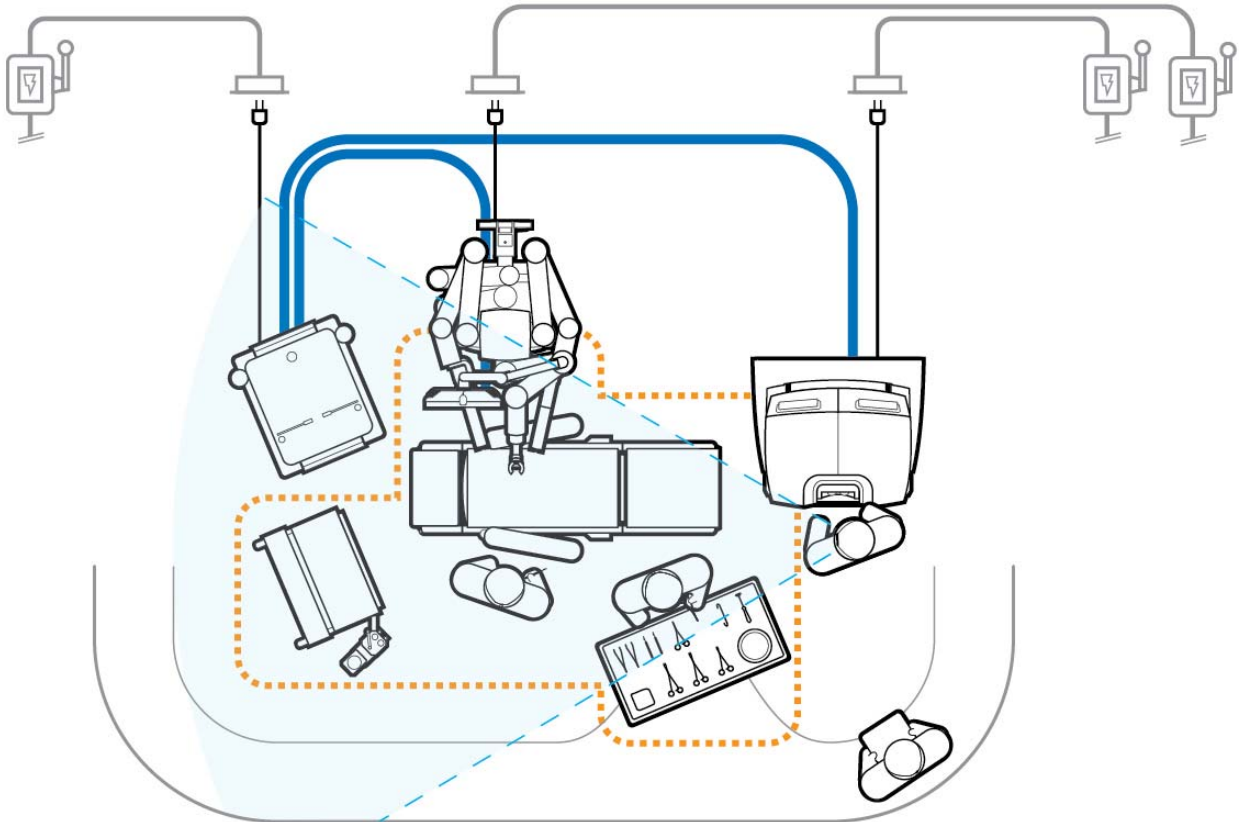

Figure 4.3 Laying out the system cables
2. Connect the system cables between the components as shown in Figure 4.3. To connect the cables, line up the red dot on the cable connector with the red dot on the matching receptacle, flip up the receptacle cover and insert the connector. You should hear an audible click when the cable engages properly. Gently pull on the connector to verify the cable is fully seated.